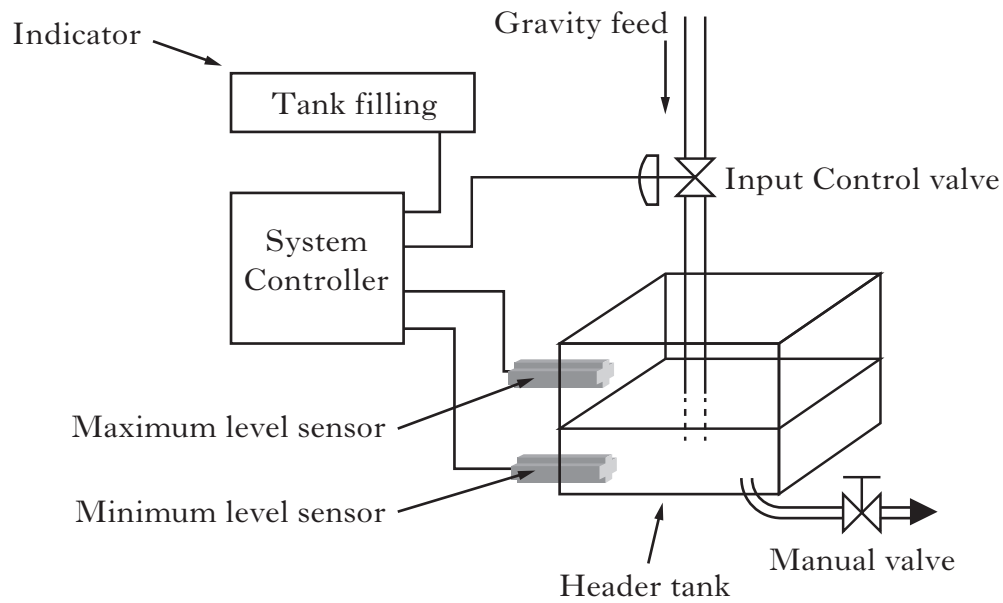

Figure Q2
2. Figure Q2 illustrates a liquid level control system.